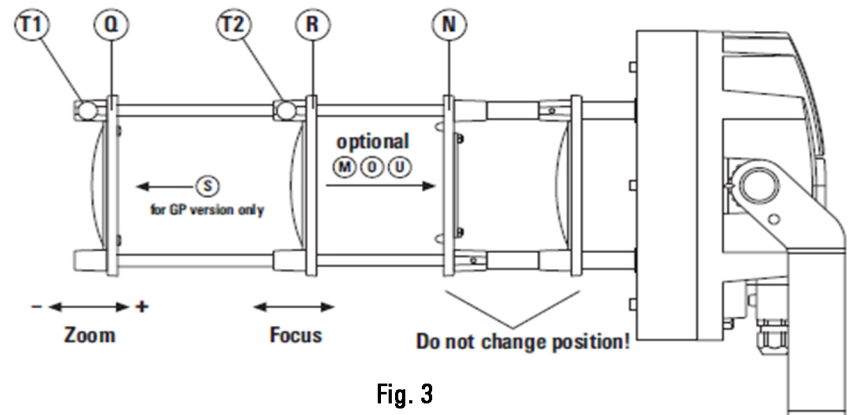

Fig. 3
3) **Fig. 3:**
4) **Fig. 3:** To set the image size, loosen the knurled fasteners T1 on the zoom lens Q, and move until the desired size has been achieved.
5) **Fig. 3:** To focus, loosen the focus lens R with the knurled fasteners T2 and move until the image is sharply delineated. Tighten all knurled fasteners T again.